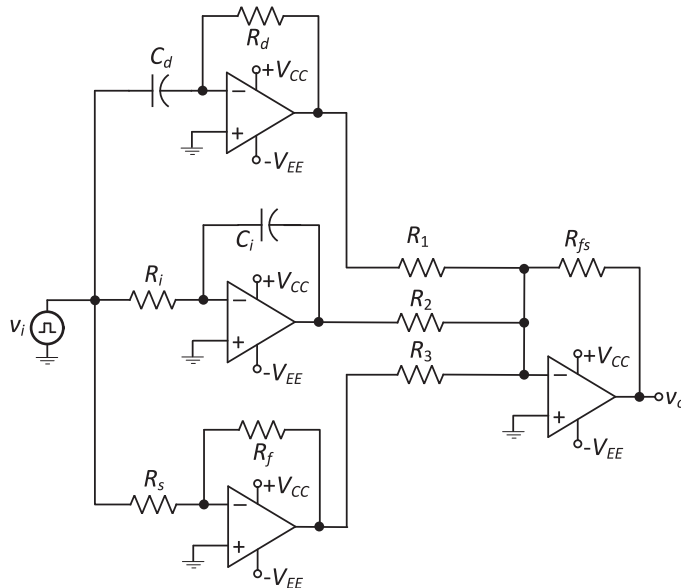

Figure 36.3 Op-amp implementation of the proportional-integral-derivative controller.
Proportional-Derivative Control: The circuit implementation of the proportional-derivative (PD) control using an operational amplifier is as shown in Figure 36.3. Assuming that the amplifier is configured to operate in the inverting mode, the output voltage of the controller is given by
1. Construct the circuit of the PID controller as shown in Figure 36.3. Enter the values of all the components obtained using the given specifications.